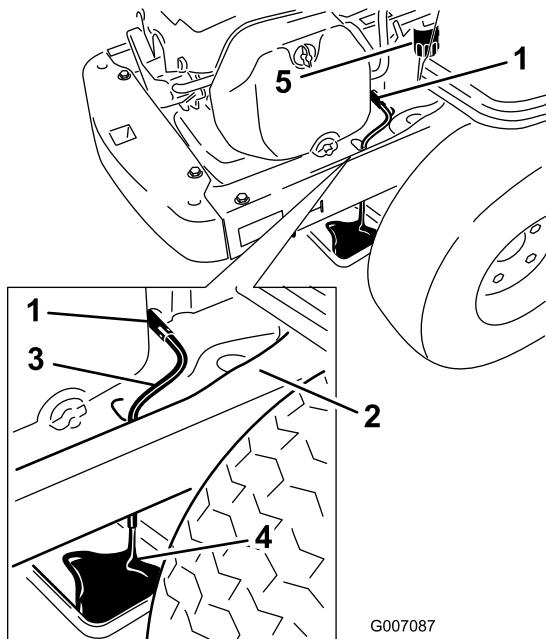

Figure 34
7. Place a pan underneath the machine directly below the drain hose (Figure 34).
8. Turn the drain valve 1/4 counterclockwise to open and allow the oil to drain (Figure 34).
11. Remove the old filter and wipe off the mounting pad (Figure 34).
13. Remove the oil-drain hose and wipe up any excess oil on the frame (Figure 34).